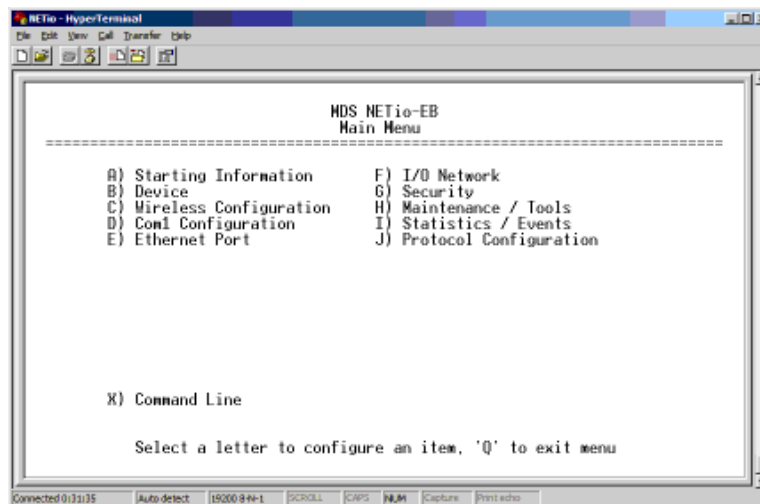

Figure 6-14. Main Menu
- From the NETio Main Menu (Figure 6-14) select **Protocol Configuration**.